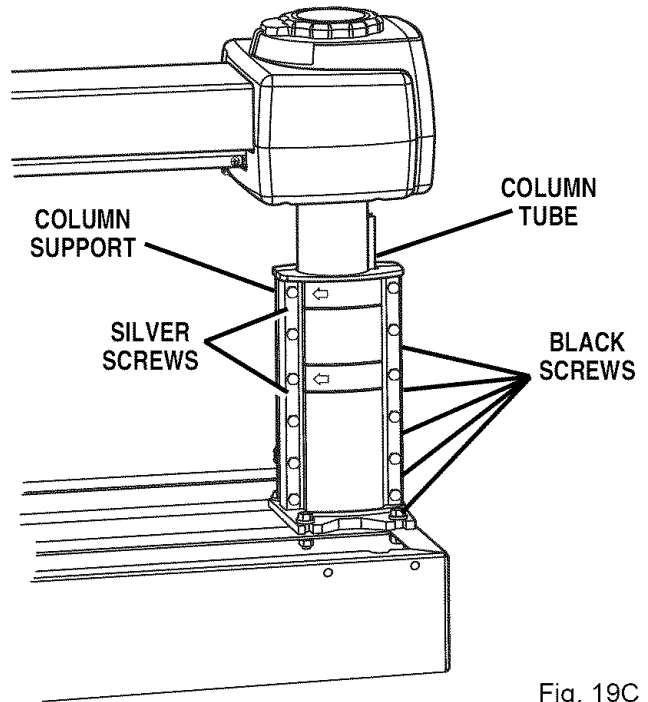

Fig. 19C
- **Elevation Adjustment:** If the elevation check did not show any play between the column tube and the support, go to the rotation adjustment. Otherwise, raise and lower the arm with the elevating handwheel. Tighten the black screws on the right side of the column support by 1/16th to 1/8th of a turn. Tighten the two silver screws on the left side slightly more. You will need two 1/2 in. wrenches or sockets. Turn the elevating handwheel again. If the column tube binds, loosen the silver and black screws and turn the handwheel again. See Figure 19C.